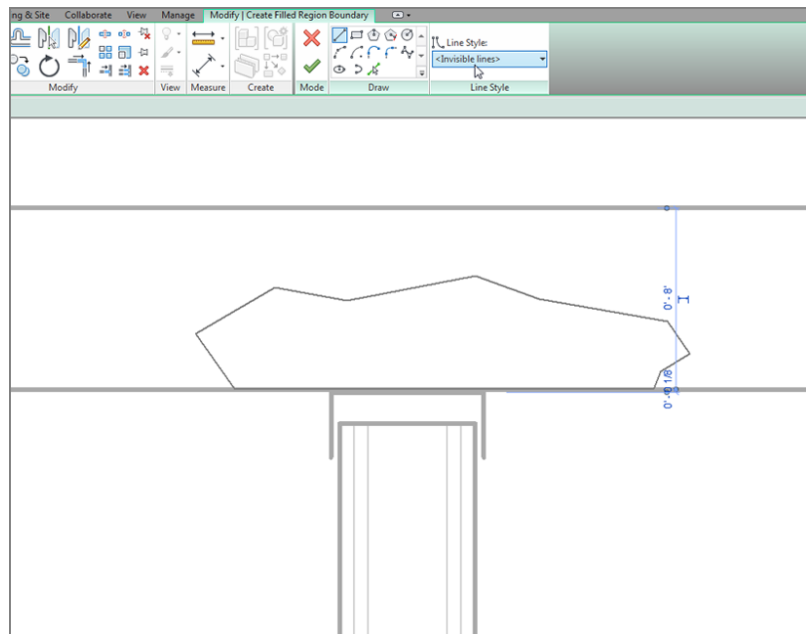

FIGURE 12.61: Draw the filled region with invisible lines.
2. In the Line Style panel, select <Invisible Lines>, as shown in Figure 12.61. On the Options bar, pick Chain.
3. Draw a boundary (see Figure 12.61), and press Esc.